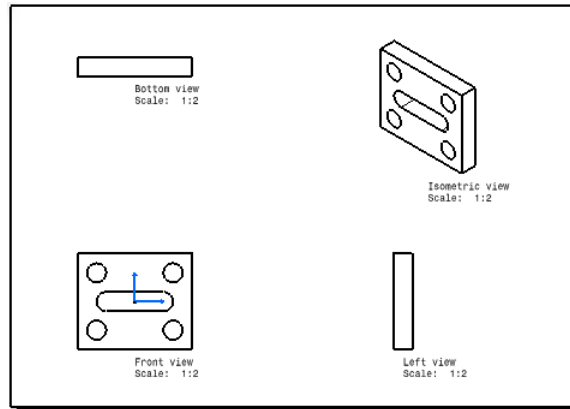

Figure 2-74 Drawing sheet after generating the drawing views
13. Click anywhere on the drawing sheet to generate the isometric view. The drawing sheet after generating the isometric view is shown in Figure 2-74.